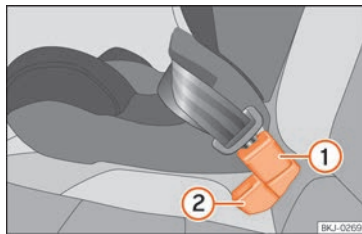

Fig. 42 Position of the belt buckle on the rear seat
- Place the middle seat's belt buckle >>> **Fig. 42**
- ① behind the side seat's belt buckle >>> **Fig. 42**
- ②.
- Plug the middle seat's seat belt into the middle seat's belt buckle >>> **Fig. 42** ① and make sure it clicks in place.
- For seat belts to be correctly fitted, the buckles must not be twisted >>> **Fig. 42**.